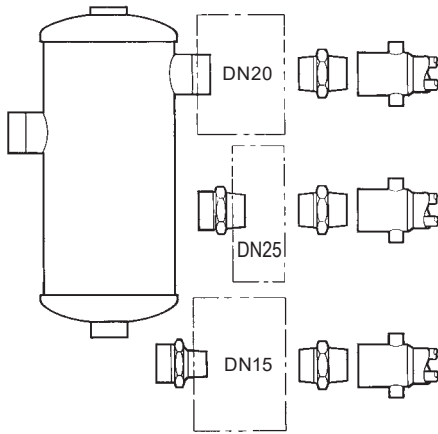

Fig. 7
- 3.2.2 A single lance can be connected directly to the outlet of the valve using the piping components provided (see Figures 7 to 10, page 12). These are supplied to match the flanged or screwed connections of the valve to be installed, when the valve is ordered.
- 3.3.5 Figures 7 to 10, page 12 give details of the piping components supplied as standard with Spirax Sarco humidifiers.